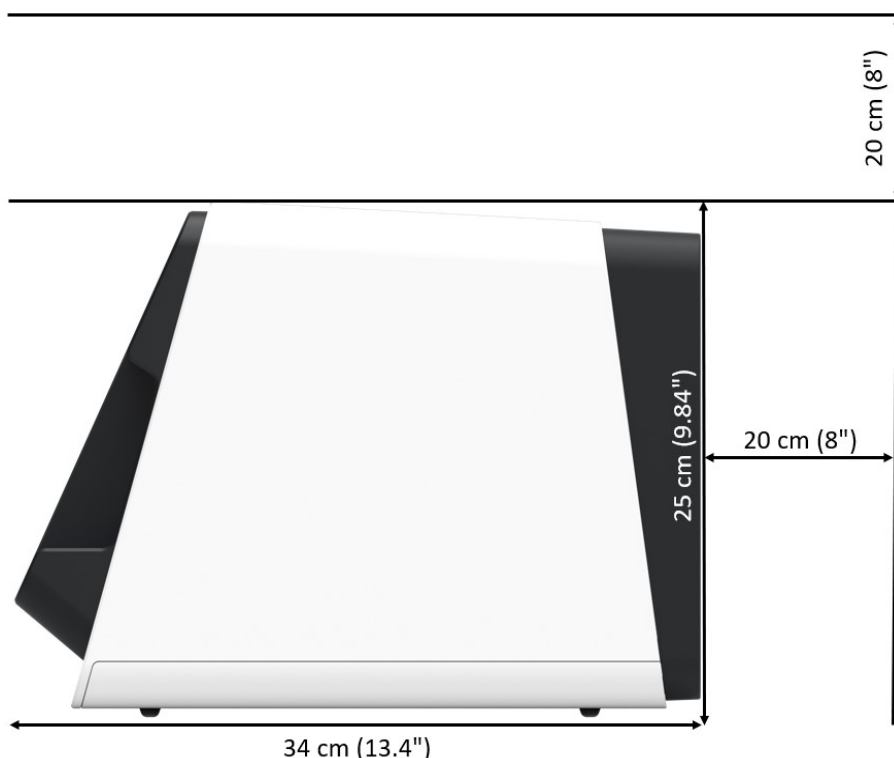

Figure 2: MeMed Key® Analyzer Dimensions
2. Place the analyzer on the prepared surface (see Figure 2: MeMed Key® Analyzer Dimensions).